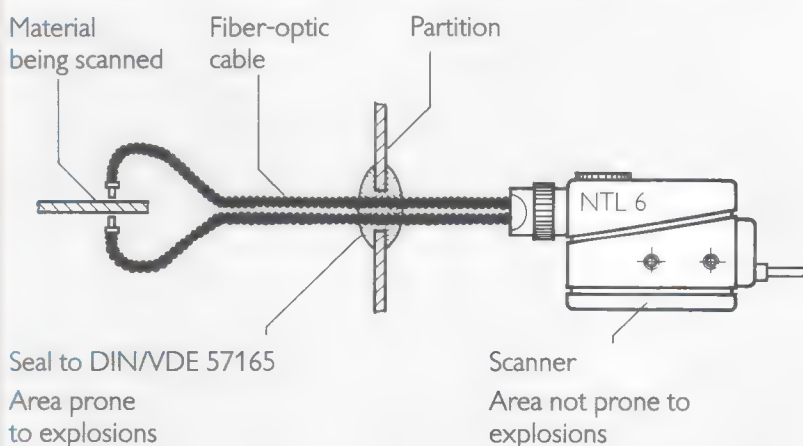

Fig. 2.
- sealing of fiber-optic cable bushing in accordance with DIN/ VDE 57165, section 5.6.2 (Fig. 2).